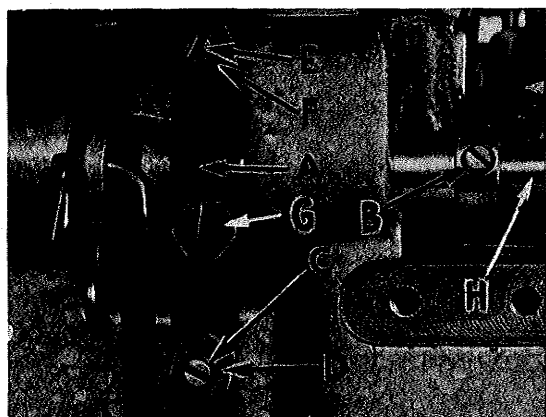

Fig. 16
Assemble the presser foot to presser arm. With needle in high position, swing presser arm into sewing position and set the presser foot to align needle holes (front and back) and flat on throat plate. The front edge of needle hole in presser foot must be aligned with front edge of needle hole in throat plate. It is also important that the bottom of the presser foot be flat on the throat plate. If necessary, presser foot can be realigned with throat plate slots by shifting the foot lifter lever shaft (H, Fig. 16). To move the shaft, loosen collar screws (B, Fig. 16) and clamp screw (G) and then shift the foot lifter lever shaft to the left or right as required. Retighten collar screws and clamp screw.
The foot lifter lever arm (A, Fig. 16) and the collar (B) secure the shaft. Be sure the presser arm does not bind and rise when presser foot release bushing is unlocked.